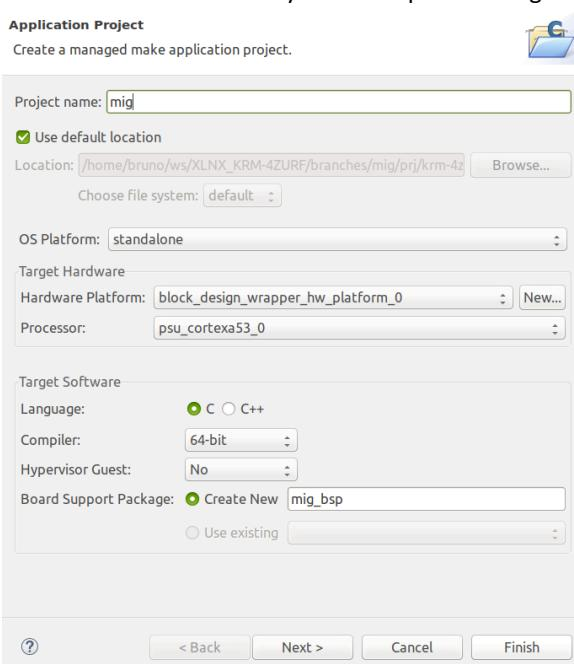

Figure 7. Xilinx SDK new Application Project
2. Use default settings as shown in Figure 7.